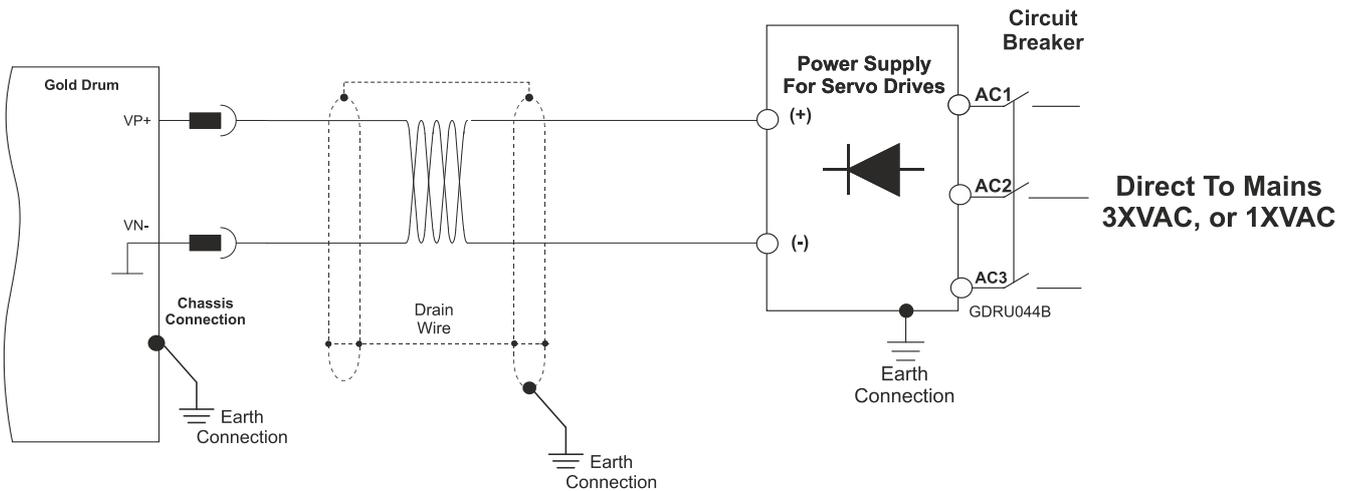

Figure 11: Non-Isolated from the Mains DC Power Supply connection
- In the **Non Isolated** Connection ( direct to Mains) the VN- terminal **MUST NOT** be connected to "Earth Connection"(PE) (Figure 11).